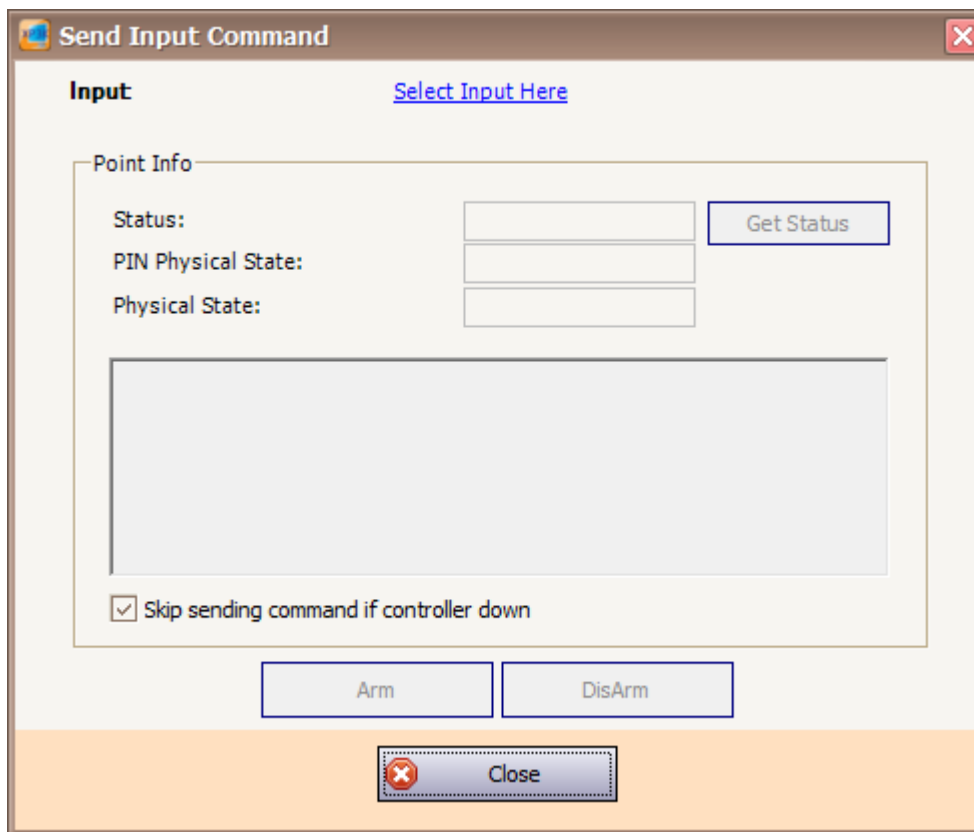

Figure 256 - Send Input Command
2. The following window will be shown (Refer **Figure 256**).